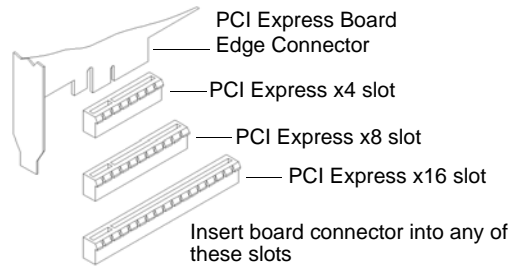

Figure 5 PCI Express Serial Bus Slots
3. Locate an unused PCI Express bus slot (see Figure 5).
The PCI Express slots in the computer chassis appear as black slots. Figure 5 shows the different variations of PCI Express slots. You can insert the Dialogic® Brooktrout® TR1034 Fax Board into any of the PCI Express slots shown in Figure 5.